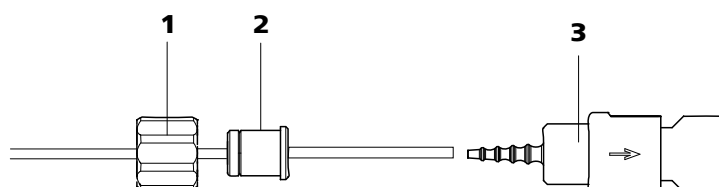

Figure 32 Install pump tubing connection with filter
- **Case A:** a 6.2744.180 pump tubing connection **with filter** (see figure 32, page 59) or